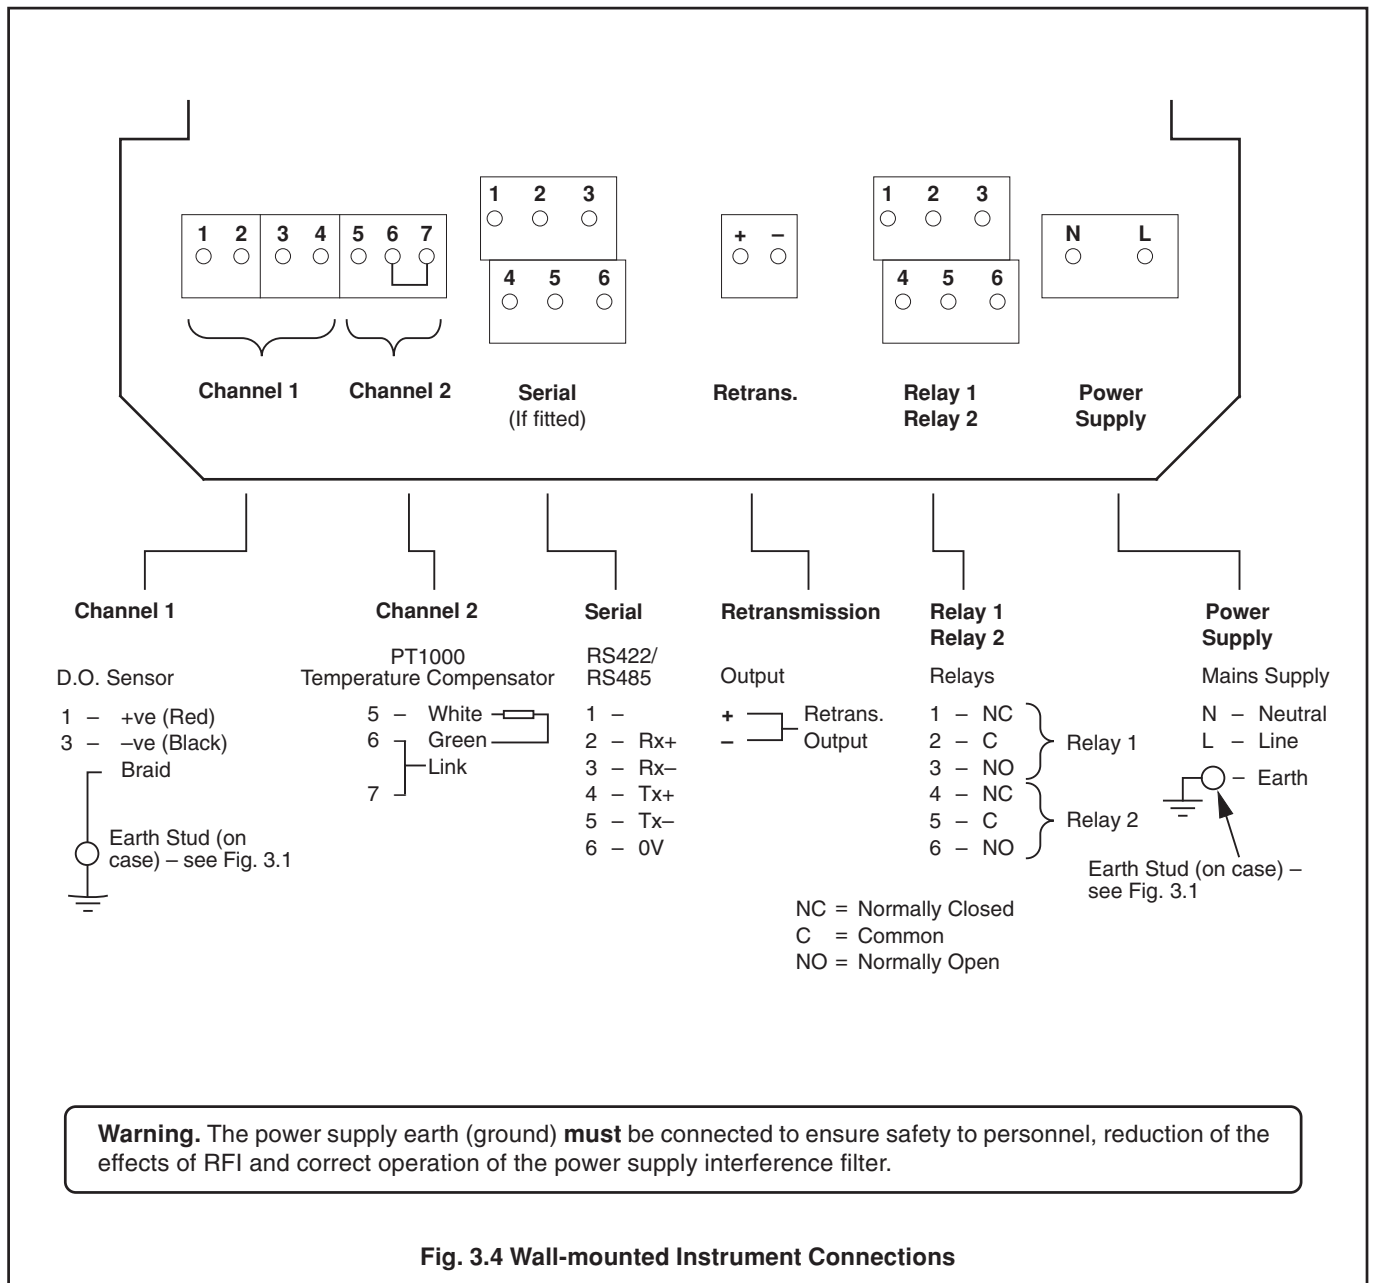

Fig. 3.4 Wall-mounted Instrument Connections
3.3 Wall-mounted Instrument Connections – Fig. 3.4